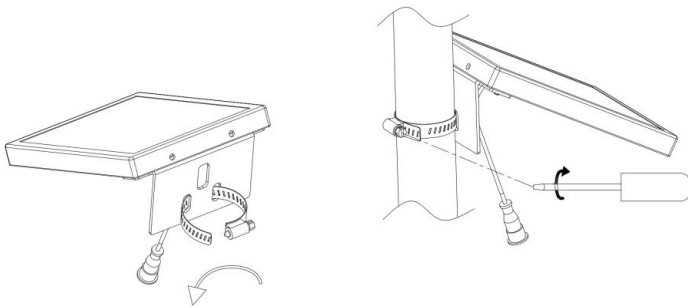

Figure 15
- c) Fix the loop on a mounting post and as shown in Figure 15. Make sure solar panel unit face sunlight.